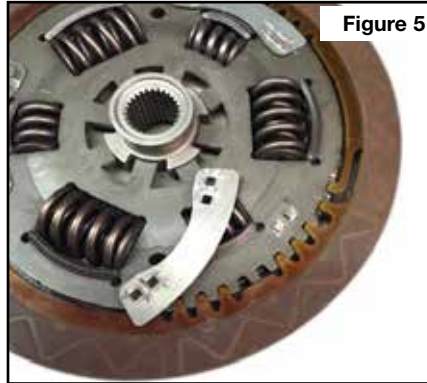
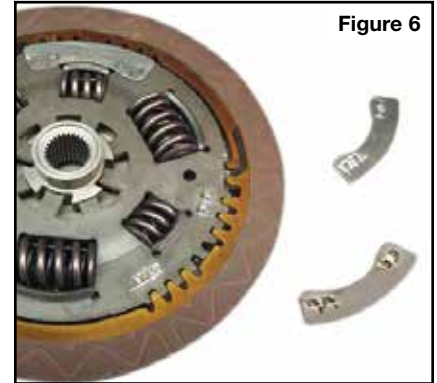

Figure 5
Figure 6
- c. Once two of the three plates are detached (Figure 5), remove OE clutch plate (Figure 6).
- Once two of the three plates are detached (**Figure 5**), remove OE clutch plate (**Figure 6**).
NOTE: It takes some practice to remove the OE clutch plate from the damper. Start by lifting clutch plate at a diagonal across from the still secured plate (**Figure 6**).